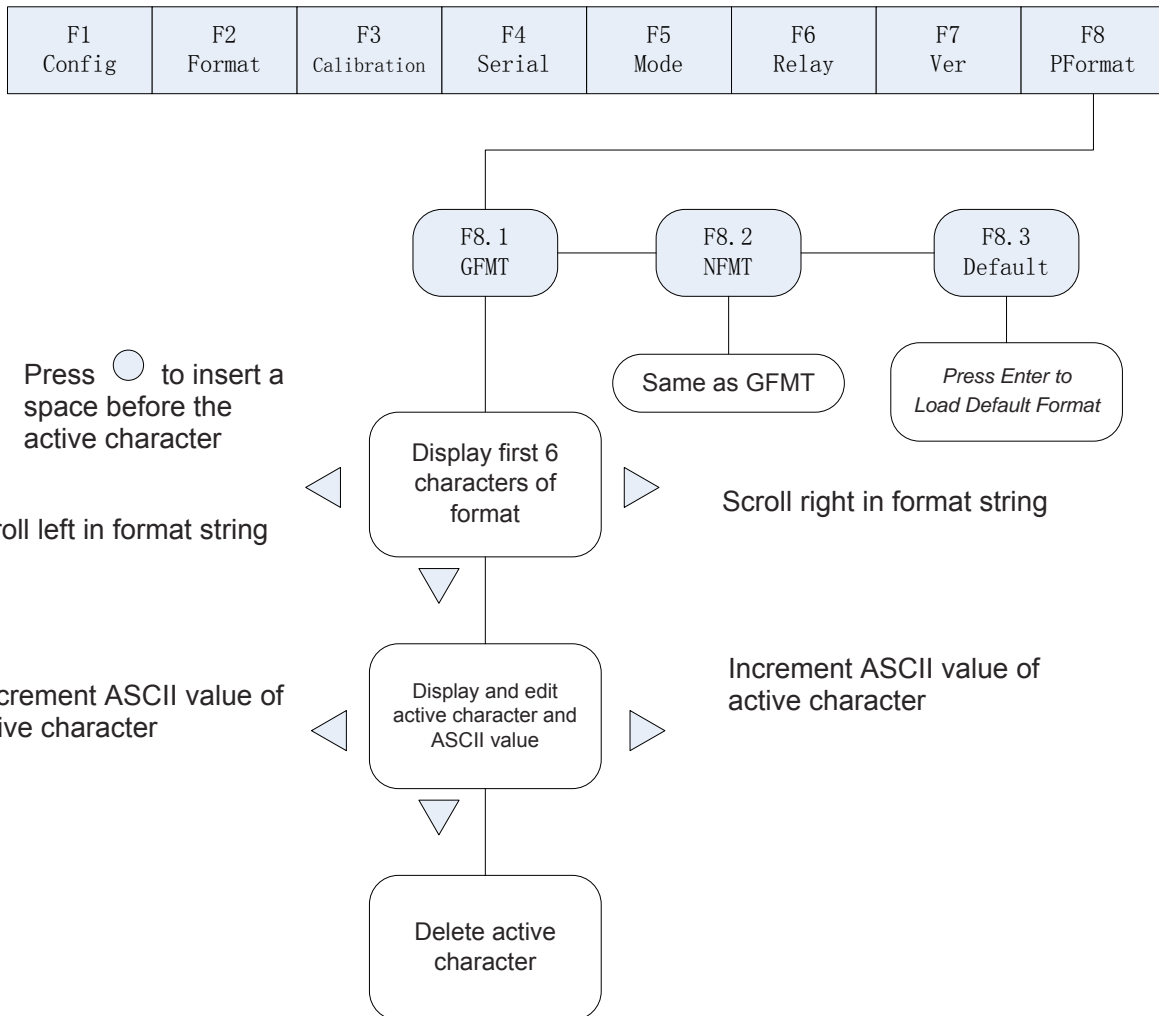

Fig. 7-1 Print Format Input Flow Diagram
- (1) Turn on the K1 switch to set indicator to the Configuration mode (display shows “F 1”)
- (2) Press to show “F 8” (see Fig. 7-1). Press to Print Format Menu and display shows “F 8.1”.
- (3) When display shows “F 8.1”, press again and display shows the first 6 digits of GFMT format.
- (4) Use , to move the cursor to different flashing digits. When it is at the far right position, press again, the first digit at the left is removed and another digit prompts up at the right. When it is at the far left position, press , the last digit at the right is removed and another digit prompts up at the left. Press to add a space to the left of the flashing digit.
- (5) When the cursor at a certain digit position, press to edit. Display shows the characters as shown in Appendix 9-5. “-” is shown for characters not available in Appendix 9-5.
- (6) When complete character editing, press  $\triangle$  to return to (4) above and to perform editing other characters. When finish editing, press  $\triangle$  to return to F8.1 and display shows "F8.1".
- (7) Press  $\blacktriangleright$  to go to F8.2 Menu and display shows "F8.2". Refer to (3) to (6) for format editing of NFMT.
- (8) After finishing, turn off the K1 switch to exit from Calibration mode and enter into Weighing Mode.
- (1) Turn on the K1 switch to set indicator to the Configuration mode and display shows "F1".
- (2) Press  $\blacktriangleright$  until display shows "F8" (see Fig. 7-1). Press  $\blacktriangledown$  to go to Print output menu and display shows "F8.1".
- (3) When display shows "F8.1", press  $\blacktriangleright$  twice and display shows "F8.3".
- (4) When display shows "F8.3", press  $\bigcirc$  to show "Set?". There are 2 options then:
- (5) Turn off the K1 switch to exit from Calibration mode and enter into Weighing Mode.